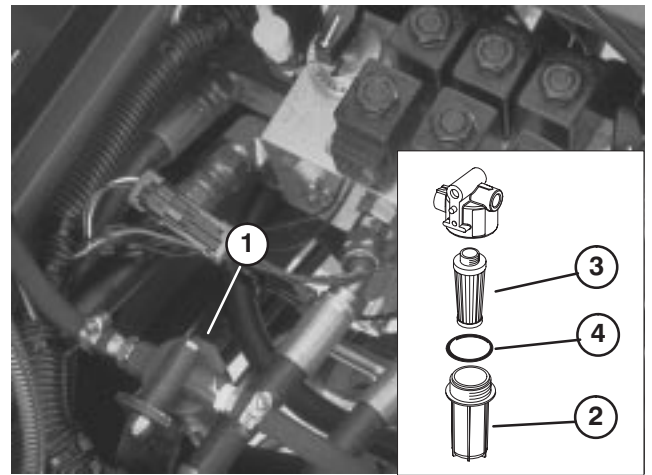

Figure 53
1. Clean area where filter bowl mounts (Fig. 53).
2. Remove the filter bowl (Fig. 53) and clean mounting surface.
3. Remove filter from bowl (Fig. 53) and replace with new filter.